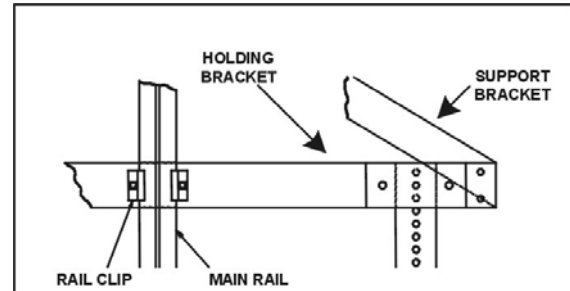

Figure 1-24
- With the tape hanging motionless secure it to the top bracket. [See Figure 1-24.]